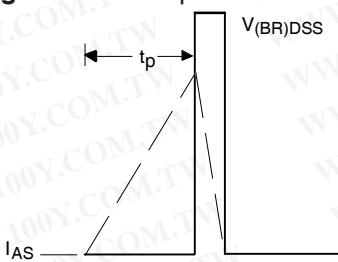

**Fig 11.** Maximum Effective Transient Thermal Impedance, Junction-to-Case
- ① Repetitive rating; pulse width limited by max. junction temperature. (See fig. 11).
- ② Starting  $T_J = 25^\circ\text{C}$ ,  $L = 0.24\text{mH}$
- $Z_{thJC}(D, t_{av})$  = Transient thermal resistance, see figure 11)